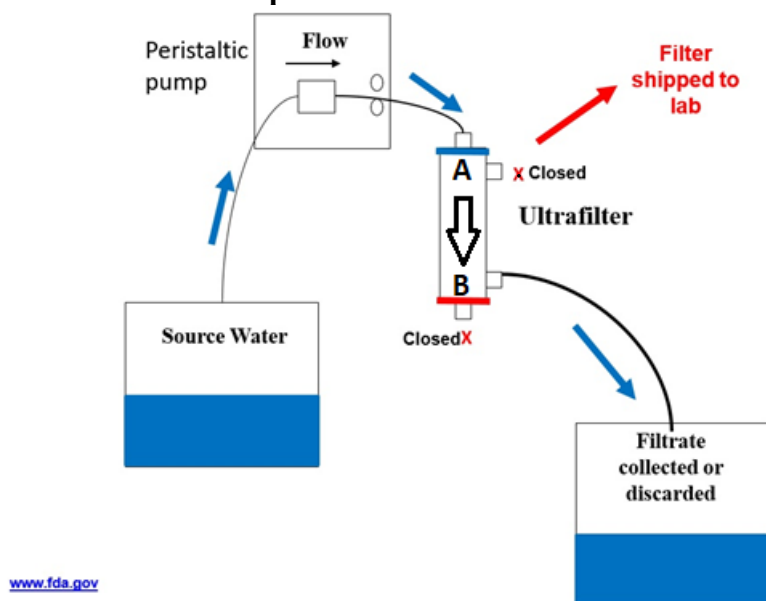

Figure 1. Diagram of the filtration system.
- b. Assemble the filtration system with one filter as shown in Figure 1, using the supplies and equipment listed above. Position the peristaltic pump on a flat surface or stand lift platform. Place the filter next to the pump.
- v. **Each filter must be labelled with the following information:** Location, sample name, sample collection date and time, turbidity (if available), the amount of water that was filtered, and contact information from the person collecting the sample. An arrow should be drawn on the filter to indicate the direction of the flow of water (see Figure 1).